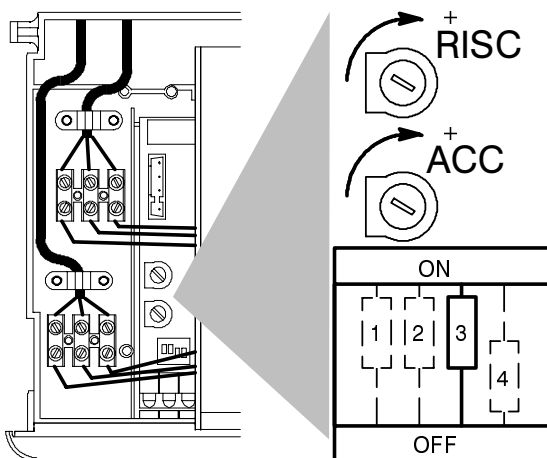

Fig. 7.8
- 14 Check the ignition gas pressure by setting dip-switch "3" (Fig. 7.8) to the OFF position.
To adjust the ignition gas pressure, set dip-switch "3" (Fig. 7.8) to the OFF position and adjust potentiometer marked "ACC" with a screwdriver until correct ignition gas pressure is obtained.
With the boiler operating in c.h. mode, use a suitable screwdriver to turn the adjustment potentiometer marked "RISC" (Fig. 7.8). Rotating the potentiometer anti-clockwise reduces the maximum supply current to the gas modulator device, and thus reduces the gas pressure to the burner.